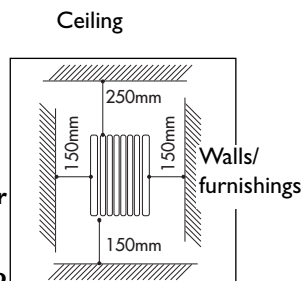

Fig.2
- d. **Keep away from curtains or inflammable materials. Also note the minimum distances indicated in the figure 2.**